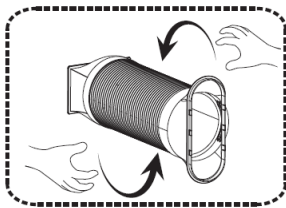

Figure 1
- The two exhaust duct connectors tighten on the ends of the exhaust duct (See Fig. 1).